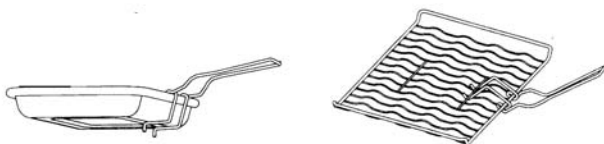

Figure 8
14. Open the Glass Door. Wearing protective oven mitts, attach Handgrip to the Wire Rack or Oven Pan (see Figure 8) and remove food from the Toaster Oven-Broiler.
12. Open the Glass Door. Wearing protective oven mitts, attach Handgrip to the Oven Pan Assembly (see Figure 8 on page 16) and carefully pull about halfway out of the Toaster Oven-Broiler. Turn the food, slide the Wire Rack and Oven Pan Assembly into the Toaster Oven-Broiler and close the Toaster Oven-Broiler Glass Door. Turn the Timer to the desired time.
4. Open the Glass Door. Wearing protective oven mitts, attach Handgrip to the Wire Rack or Oven Pan (see Figure 8) and remove food from the Toaster Oven-Broiler.
6. Open the Glass Door. Wearing protective oven mitts, attach Handgrip to the Wire Rack or Oven Pan (see Figure 8) and remove food from the Toaster Oven-Broiler.